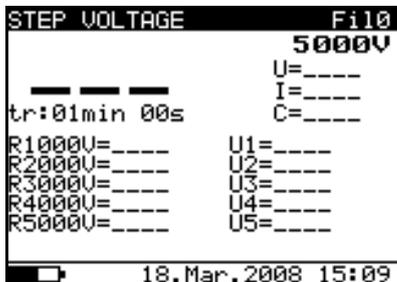
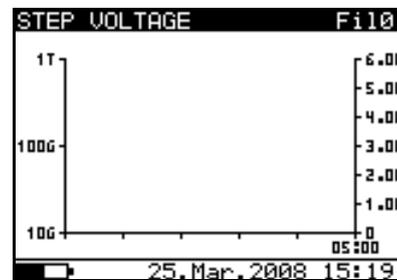

Fig. 34: Initial numerical screen
Fig. 35: Initial graphical screen
2. Select with arrow keys \blacktriangledown or \blacktriangle the item "STEP VOLTAGE" on main menu and confirm with **SELECT** key. The screen of Fig. 34 is shown by the meter. In case of activation of Graphic R(t) option press arrow keys \blacktriangledown or \blacktriangle to select the graphical screen of Fig. 35